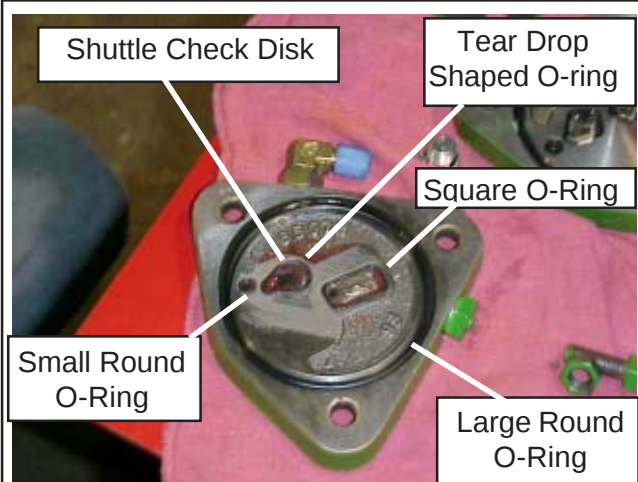

Figure 10
8. Remove End Plates Shipping Plate & Gasket. Remove 3 bolts and Nuts from shipping plate. Carefully lift up shipping plate (**See Figure 9**). Make sure that Shuttle Check Disk and the End Plate O-Rings did not stick to the Gasket (**See Figure 10**). Put the Shipping Plate on the old End Plate to protect it and the O-Rings.
9. Shuttle Check Disk. The replacement LH End Plate is shipped with a Shuttle Check Disk insert into it. This Disk must not fall out; it is coated with grease to hold it in. Check to make sure it is in the proper recessed area of End Plate (**See Figure 10**)
10. End Plate O-Rings. There are 4 O-Rings total, a large one around the outside, a very small round one, one in a tear drop shaped recess and one in a square shaped recess. All the O-Rings are round, it is the recessed shaped that holds them different. O-rings are coated with grease to help hold them. Make sure all these O-Rings are in Place (**See Figure 10**). Make sure none of these slip out.
5. Pressure and Return Hose Connections. Locate the two # 8 Hoses, one hose has a Red Plastic tie (hose part # 02976714) and the other Hose has an Orange Plastic tie (hose part # 02976713). Both Hoses are 190" long and will have a Plastic tie on both ends. Hoses need to be inserted down under valve to prevent the 3 Point Lift Arm Cylinders of tractor from interfering with them **(See Figure 17)**. After Both Hoses are connected and tightened (See Figure 18), the Hoses will be run under floor of tractor cab to just under RH Door **(See Figure 21)**. Here they come out and are run along Tractor RH Frame Rail to the Front of Tractor **(See Figure 22)**. The Hoses will lay behind RH front Rail support **(See Figure 10)**. Do not tie hose to frame rail at this time.